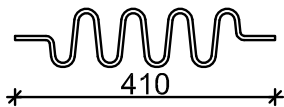

Figure 5.7
- Check the length of the energy absorber and tighten the cable until the absorber lengthens by 5-10 mm (equivalent to a traction force of approximately 100/150 daN) (Cod. 000033) (see **Figure 5.7**);